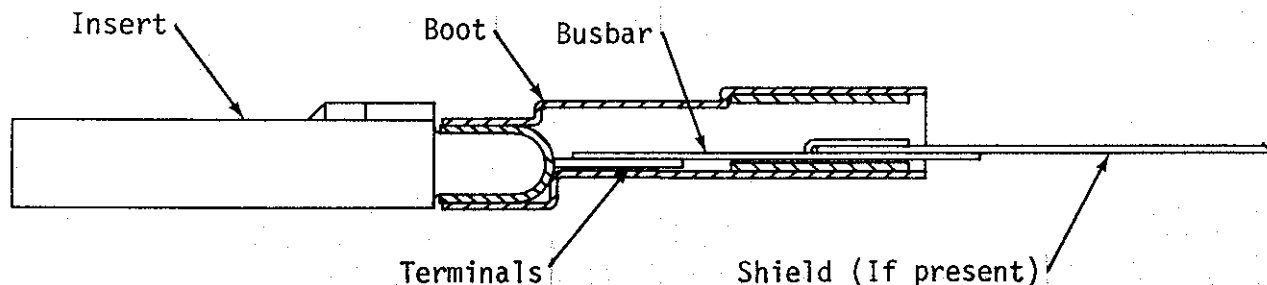

Figure 8. Shield/Busbar Assembly Inserted into Insert Boot Per Note "A"
1. Insert the busbar or the shield/busbar assembly into the boot of connector insert A or B, as specified on the cable assembly drawing (Figure 8).